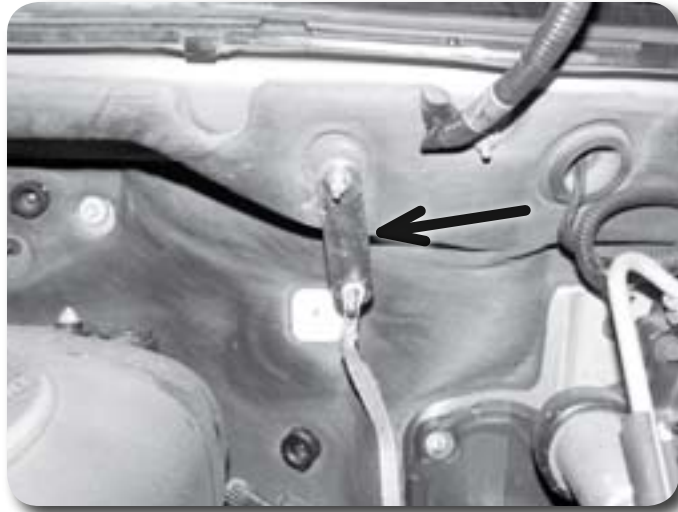

Figure 18
44. Check the firewall ground cable for slack. It may be long enough to reattach with the factory nut. If more slack is required, install the provided extension bracket w/stud using the factory nut. Attach the cable to the relocation bracket with the provided 1/4" nut and 1/4" USS washer. Torque the factory and 1/4" nuts to 10 ft-lbs **Figure 18**.